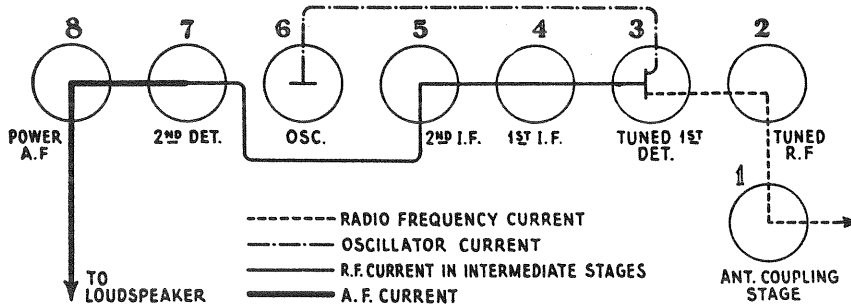

Figure 4—Radiotron sequence
- (b) The circuit consists of one untuned coupling stage; one tuned R.F. stage; a tuned heterodyne detector circuit; two intermediate R.F. stages; an oscillator; a second detector; and a power amplifier. (Figure 4.)
Figure 4 illustrates the sequence of the Radiotrons in the receiver, omitting Radiotron UX-280 in the socket power unit. From right to left, when facing the front of the Radiola, the Radiotron sequence is as follows:
Socket No. 2 (Figure 4), the tuned R.F. stage, is the most critical for selection of the Radiotrons. Place in this socket the tube which gives the loudest signal and does not go into oscillation throughout the tuning range. If no tube is found that will not oscillate, a slight re-adjustment of the R.F. compensating condenser may be necessary, as described in Part II, Section 13.